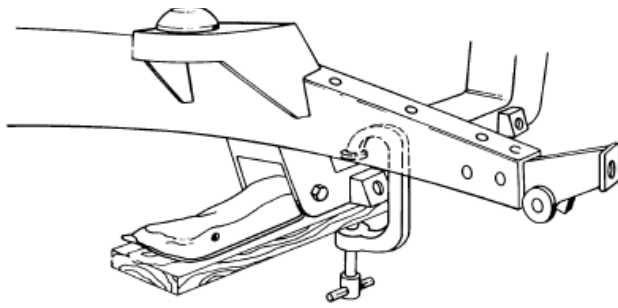

Figure 6- Lower Control Arm Install
11. If you are using factory lower control arms and strut rods you will continue here. Use the lower control arm and strut rod for locating the rear strut-rod supports and gussets. Using a 2 x 4 and a C-clamp, install the control arm as shown in **Figure 6**.